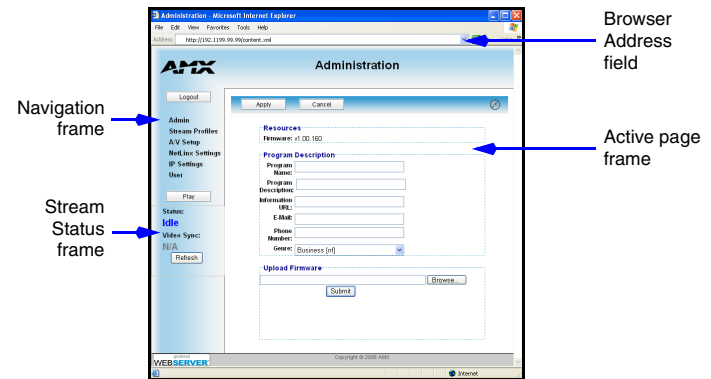

FIG. 5 Sample IP Settings page (DHCP)
1. Access the IP Settings page by clicking the **IP Settings** link from within the Navigation frame (FIG. 5).